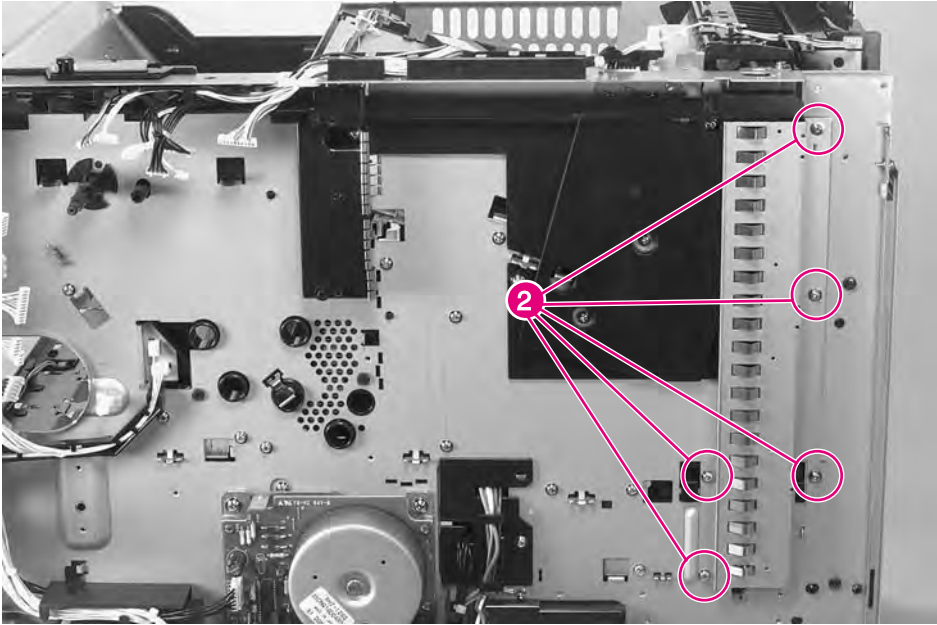

Figure 6-45 Output Paper Sensor PCA (2 of 4)
- 3 Remove 5 screws (figure 6-45, callout 2), and remove the Formatter PCA grounding strip.